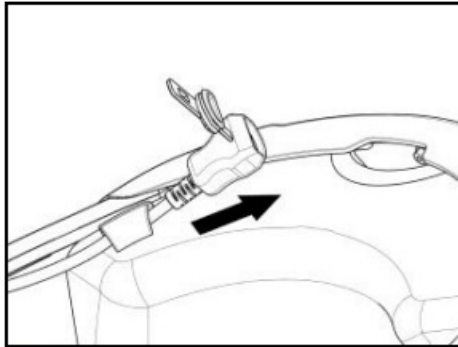

Fig. 22
- Pass the USB mini wire through the elastic band found on the comfort padding (Fig. 22).